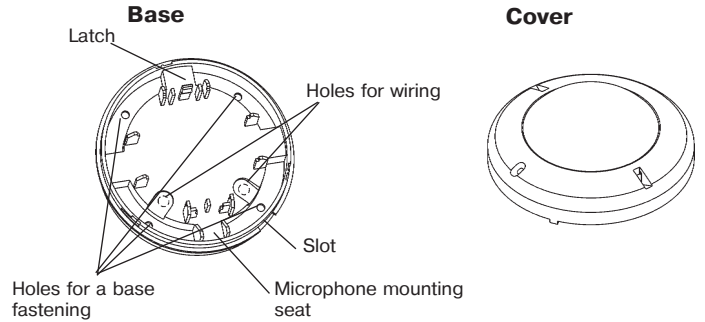

Figure 3 – Base and cover of the Detector
- Put off the Detector cover by its turning counter-clockwise until tight (See Figure 3);
- drill the holes in the base (See Figure 3) for the Detector wiring and fastening the base;